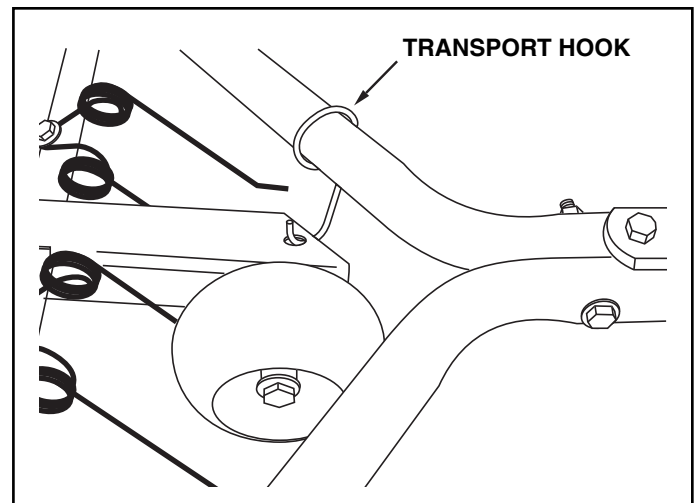

FIGURE 6
15. Lift the front of the dethatcher and secure it in transport position using the transport hook. See figure 6.